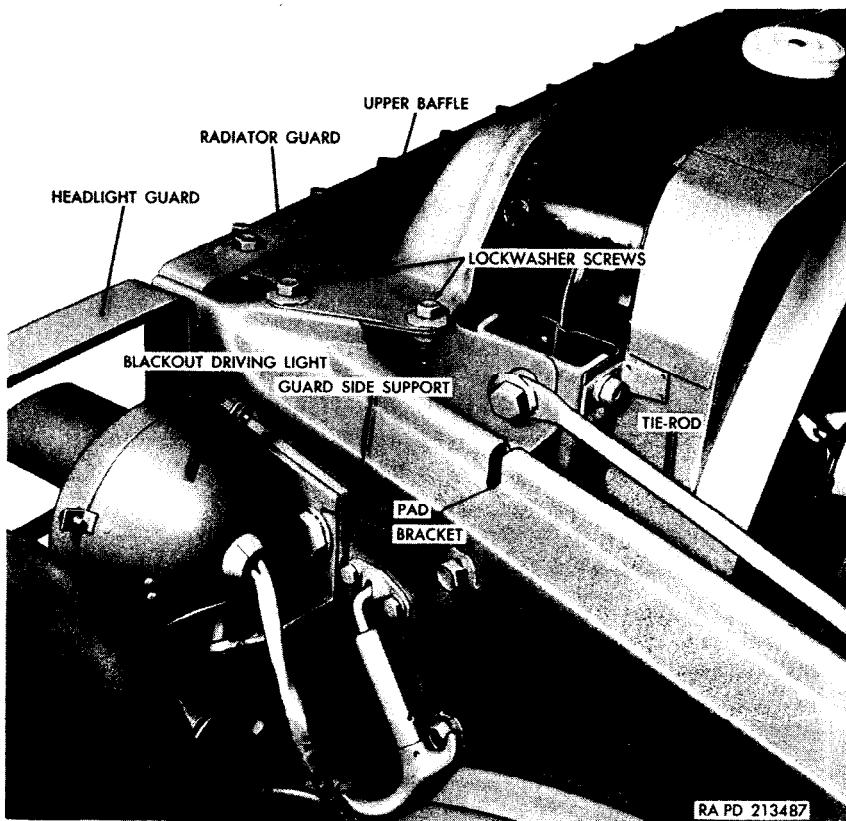

Figure 208. Radiator guard, guard side support, and upper baffle.
- (2) Remove the four nuts, lockwashers, and bolts that secure the radiator guard to the radiator upper baffle (fig. 208), and remove the guard and attached extension.
- (3) Remove the two nuts, lockwashers, and bolts that secure the extension to the guard, and remove the extension.
- (4) Position the guard extension on the guard and install the two $\frac{3}{8}$ -24NF x 1 bolts, $\frac{3}{8}$ -inch, internal-external-teeth dished lockwashers and $\frac{3}{8}$ -24NF nuts. Tighten the nuts.
(5) Position the guard on the radiator upper baffle (fig. 208), aligning the bolt holes in the guard with those in the radiator baffle and the guard side supports. Install four $\frac{3}{8}$ -24NF x $\frac{7}{8}$ bolts from the upper side of the guard and install a $\frac{3}{8}$ -inch internal-external-teeth, dished lockwasher and $\frac{3}{8}$ -24NF nut on each bolt.
- (3) Remove the lockwasher screw that secures the radiator left tie rod to the radiator support (fig. 208).
- (4) Remove the four nuts, lockwashers, and bolts that secure the radiator guard to the radiator upper baffle and the two lock-washer screws that secure each end of the baffle to the side support and remove the baffle (fig. 208).
- (5) Remove the headlight guard (par. 256*c*(1) and (2)).
- (6) Remove the two bracket screws and lockwashers that secure the blackout headlight mounting bracket and pad to the side support. Place the light on the fender and remove the pad.
- (7) Disengage the headlight wiring harness from the cable clip at the inner side of the support.
- (4) Engage the headlight wiring harness in the cable clip on the support.
- (5) For the left side support, position the bracket pad and blackout headlight bracket with light on the support, and install the two $\frac{3}{8}$ -inch, internal-teeth lockwashers and two screws. Tighten the screws.
- (6) Install the headlight guard (par. 256a(3) and (4)).
- (7) Position the radiator upper baffle with the front edge under the radiator guard and the ends over the two side supports. Install the two lockwasher screws that secure each end of the baffle to the side support. Install the four $\frac{3}{8}$ -24NF x $\frac{7}{8}$ bolts, $\frac{3}{8}$ -inch internal-external-teeth, dished lockwashers, and $\frac{3}{8}$ -24NF nuts to secure the baffle to the guard (fig. 208).
- (8) Position the radiator tie-rod on the radiator support and install the lockwasher screw (fig. 208).